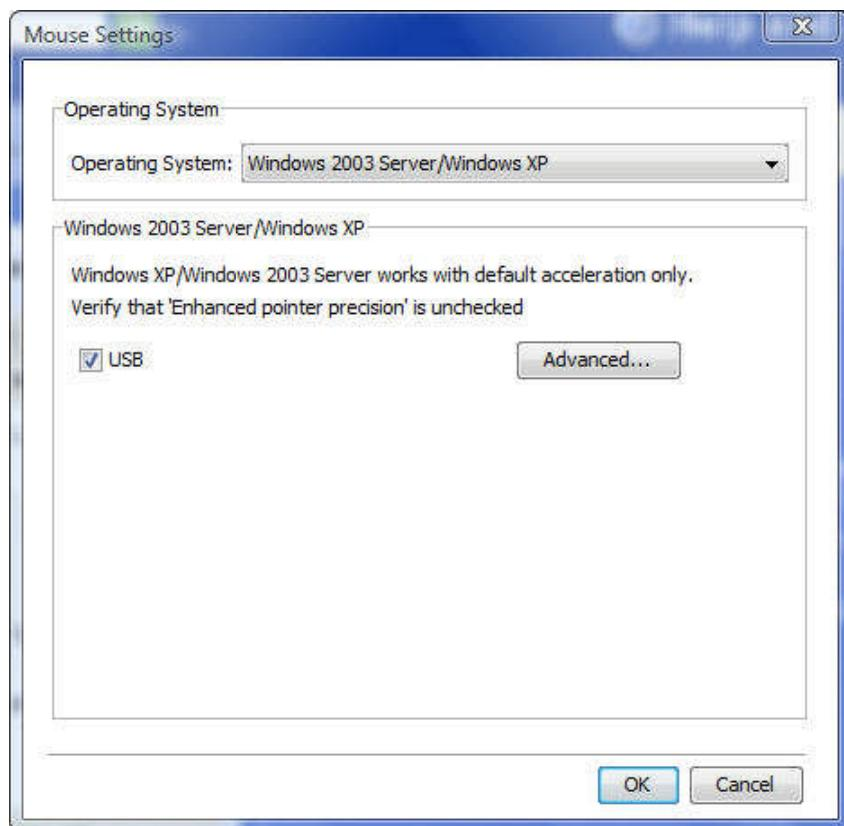

Figure 64 – Relative Mouse Settings
1. In the **Mouse Settings** box (see Figure 64), click **Advanced**.